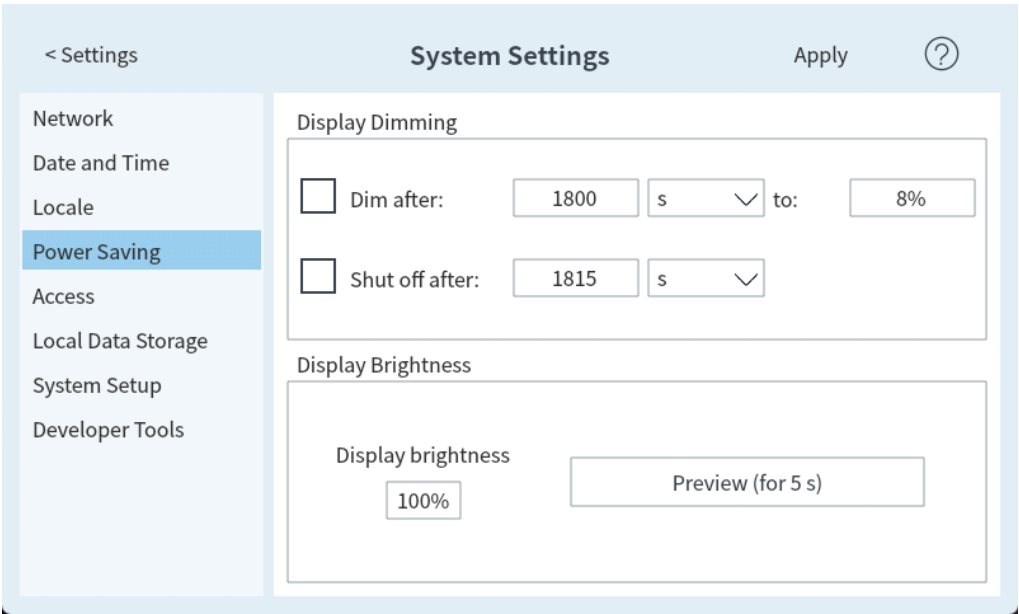

Figure 56. Power Saving page
- 1. From the System Settings page, select the **Power Saving** page selection button. The Power Saving page appears. See Figure 56.